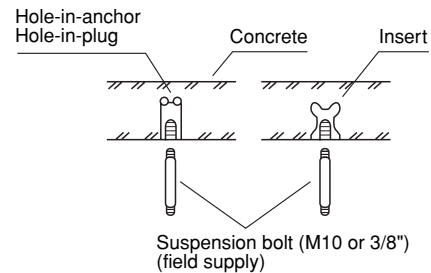
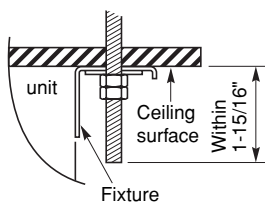

Fig. 3-92
Fig. 3-94
- (2) Drill holes at the 4 points indicated on the full-scale diagram.
- (3) Depending on the ceiling type:
- a) Insert suspension bolts as shown in Fig. 3-92.
- (4) Screw in the suspension bolts, allowing them to protrude from the ceiling as shown in Figs. 3-92 and 3-93. The distance of each exposed bolt must be of equal length within $1\text{-}15/16$ ". (Fig. 3-94)